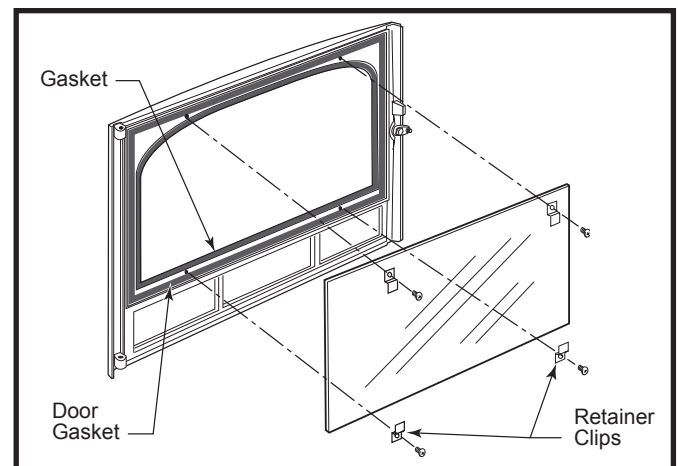

Fig. 16 Components for the front door may be disassembled to allow replacement of the glass, gaskets or both.
- Open the door and loosen the four retaining clip screws that hold the glass to the door. Swing the clips out of the way. Tilt the glass away from the door frame and lift up. (Fig. 16) Wear gloves and use caution when handling broken glass.